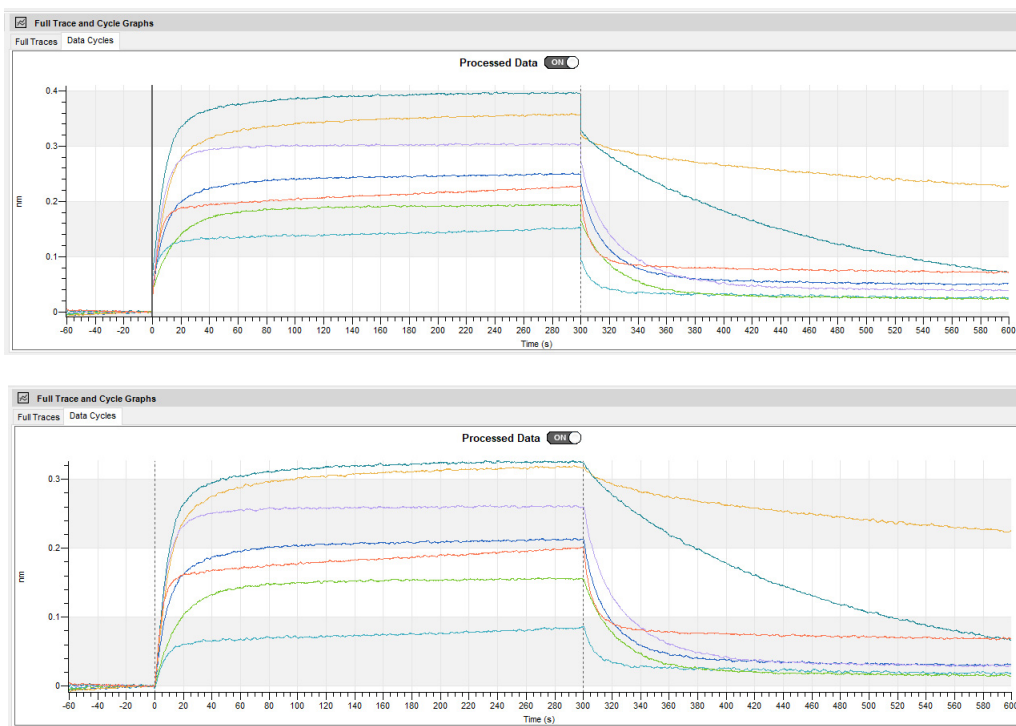

Figure 4-71: Inter-step Correction aligned to Baseline Step Uncorrected (Top) and Corrected Data (Bottom)
- **Baseline Step** - Aligns the beginning of the association step on the Y axis with the end of the adjacent baseline step. An example is shown in Figure 4-71.